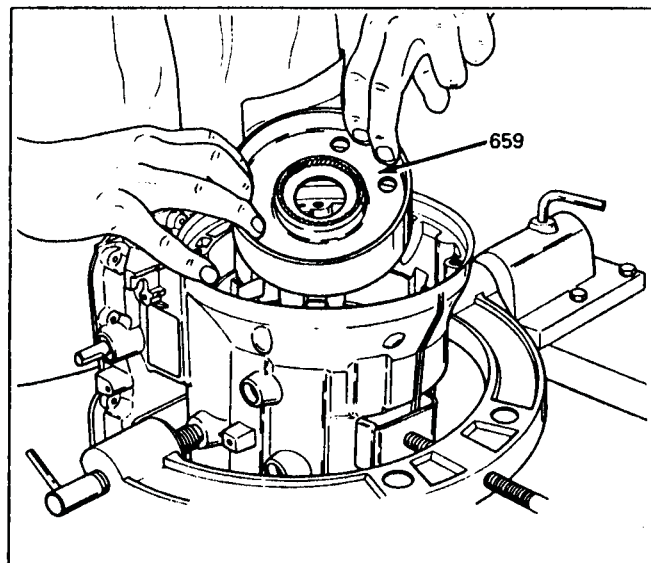

Figure 48
20. Remove the 1-2 brake drum, as shown in Figure 48, by lifting from the inside.